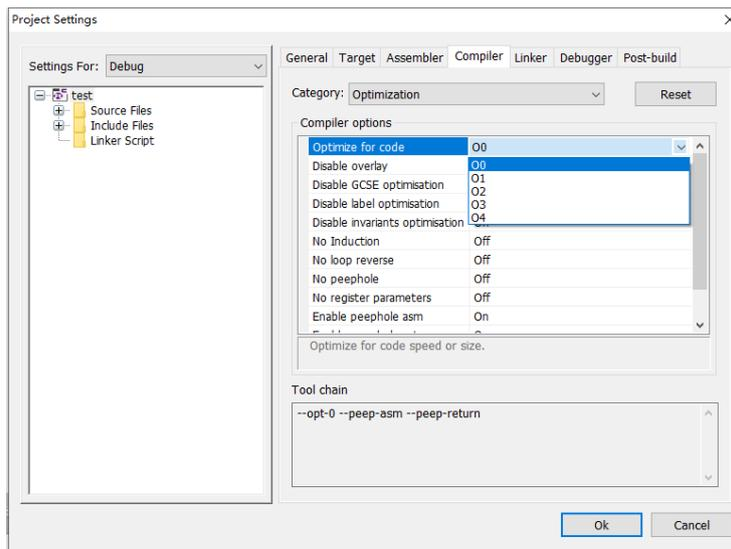

Figure 1-33
- Optimize for code: code optimization level, with the following five levels available. Default is O0, as shown in Figure 1-33;